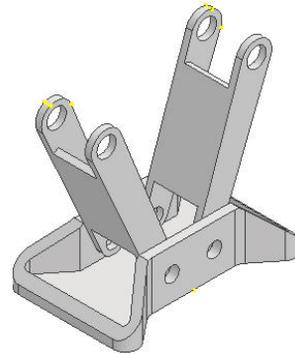

*Figure P1-19 Components placed in assembly environment*
While placing the component if the orientation of the component is not same as shown in Figure P1-19, then you need to rotate the component. To do so, right-click in the drawing area before placing the component; a Marking menu is displayed. Choose the required option from the Marking menu.
1. Orient the components, as shown in Figure P1-19, by using the **Free Rotate** tool from the **Position** panel of the **Assemble** tab.